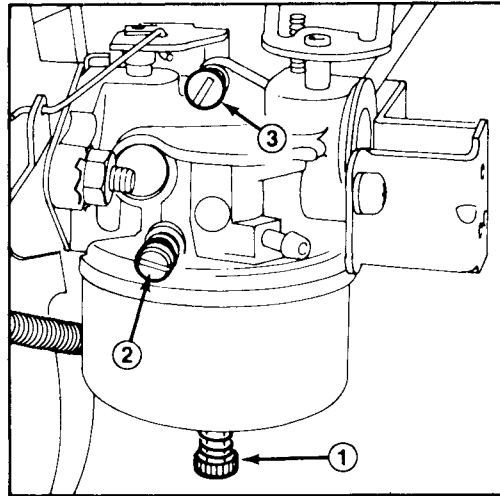

Figure 33
2. Power adjusting screw (Fig. 33) — Close screw by gently rotating it clockwise until a slight seating resistance is felt. Next, rotate
3. Idle mixture screw (Fig. 33) — Close screw by gently rotating it clockwise until a slight seating resistance is felt. Next, rotate idle mixture screw 1½ full turns counterclockwise.
5. Rotate power adjusting screw (Fig. 33) clockwise — in — 1/8 turn at a time until engine misses because of a lean gasoline mixture. Then rotate screw counterclockwise — out — 1/8 turn at a time until engine runs unevenly because of a rich gasoline mixture. Next, rotate power adjusting screw clockwise, back to the midpoint between the rich and lean setting so engine runs smoothly.
6. Move throttle to idle speed. Next, rotate idle speed screw (Fig. 33) until engine idles fast — 1750 rpm.
7. Rotate idle mixture screw (Fig. 33) clockwise — in — 1/8 turn at a time until engine begins to miss because of a lean mixture. Then rotate screw counterclockwise — out — 1/8 turn at a time until engine runs unevenly because of rich mixture. Next, rotate idle mixture screw clockwise, back to the midpoint between rich and lean setting.
8. Again, rotate idle speed screw (Fig. 33) until engine idles at 1750 rpm.